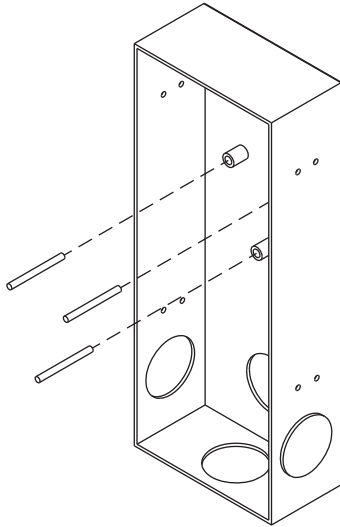

Figure 1
- 1) Screw the 3 supplied studs into the 3 respective standoffs on the metal backbox (**Figure 1**).